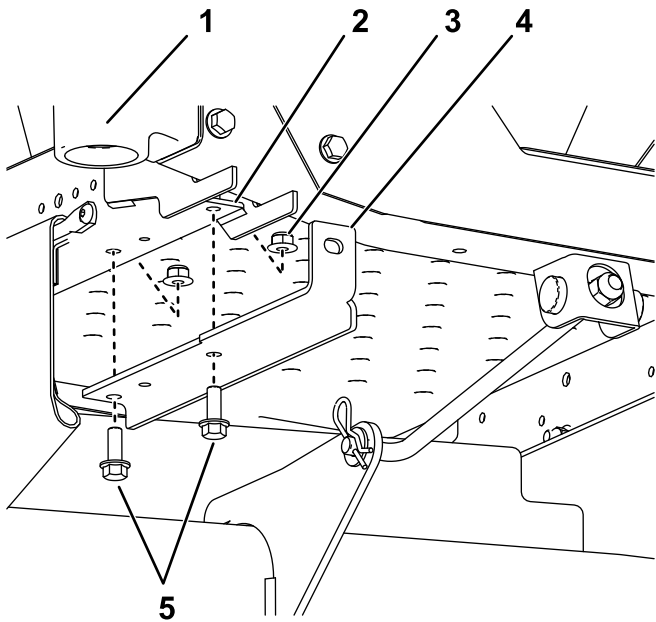

Figure 2
1. Install the weight-mounting brackets to the under side of the frame using 2 bolts (3/8 x 1 inch), and 2 locknuts (3/8 inch) as shown in Figure 2.